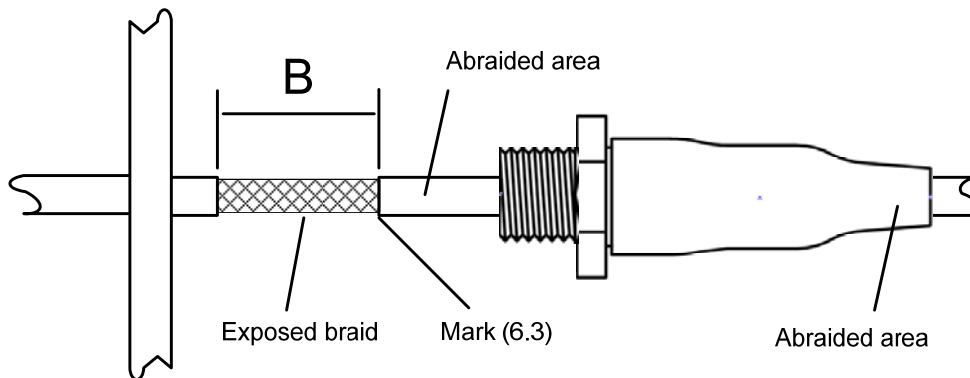

Figure 7
6.4 Starting from the mark made in 6.3, strip a section of cable jacket towards the bulkhead. See Figure 7. The length to be stripped is determined by the feedthrough size and is given in Table 3. (Distance 'B').